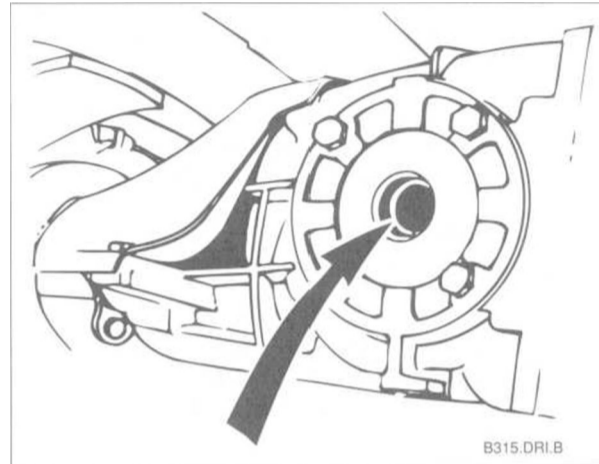

Fig. 4. Drive flange snap ring **arrow!** to be removed from final drive housing.
3. Remove wire (snap) ring from final drive opening. See Fig. 4.